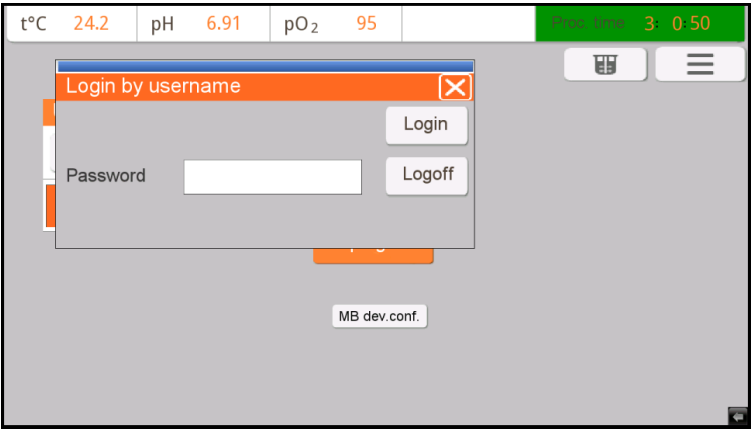

Figure 0.15. Login window
- 4) After pressing the LOGIN/LOGOFF button an authorization window will appear (see Figure 0.15). Click on the blank space on the right-hand side next to the word “Password” (Figure 0.16) and using the virtual keyboard (see Figure 0.16) enter the respective password, then press **ENTER** and **LOGIN** in order to gain access to all system functions.